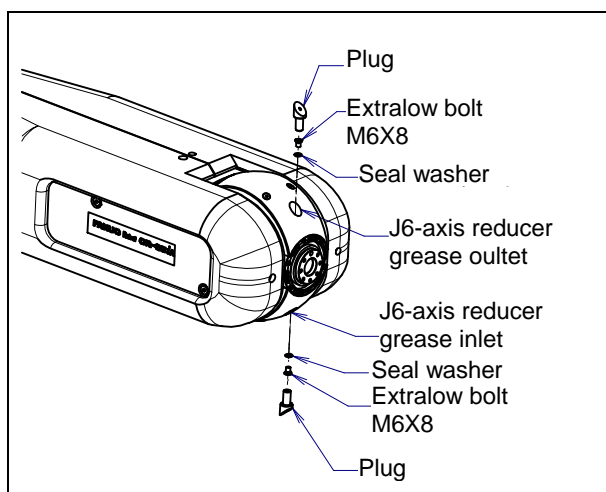

Fig. 7.3.2 Greasing point of J6-axis reducer
- ii) See Fig.7.3.2 and Table 7.3.2 (a) for greasing points and the method.